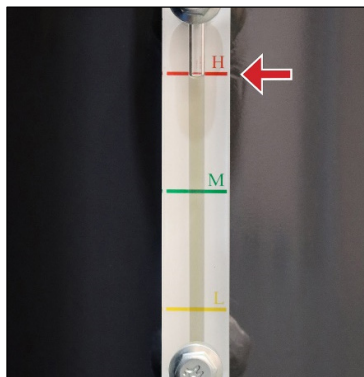

Figure 5 Full Oil Level Indication
- e. Close the oil drain ball valve and reinstall the oil drain plug. Fill the air-oil receiver with fresh lubricating oil until the oil level reaches the high ('H') limit red line on the oil level gauge as shown in Figure 5. Reinstall and tighten the screw-plug in the oil filling port.